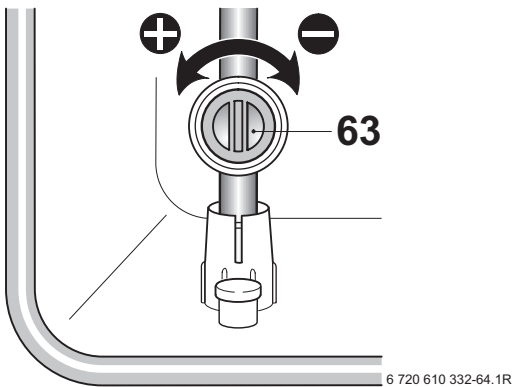

Fig. 45
- ▶ Adjust the gas flow restrictor (63) to obtain the CO2 level given in Table 14. Refer to fig. 45.